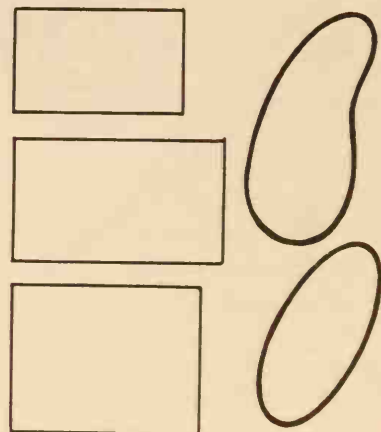

Fig. 2-4. Rectangles and free forms.
4. Proportion. The relationship between dimensions is called proportion. This relationship may be as a ratio. The "golden rule" is a proportion of about 5 to 8. Odd ratios such as 3 to 5, 7 to 9, 9 to 11 are usually preferable. Rectangles, ovals, and free forms are more pleasing as a rule than are squares and circles, Fig. 2-4.